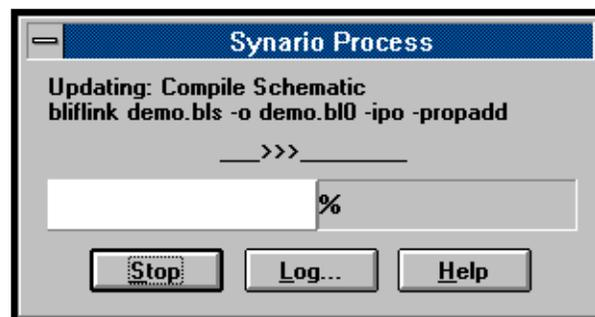

Figure 1-13. Synario Process Status Dialog Box
31. In the Synario Project Navigator window, highlight the schematic source `demo` (`demo.sch`) in the Sources in Project list. Double-click on Compile Schematic in the Processes list. A status dialog box (Figure 1-13) appears briefly. When the process is finished, the Compile Schematic process will have a green check mark next to it indicating a successful compile.